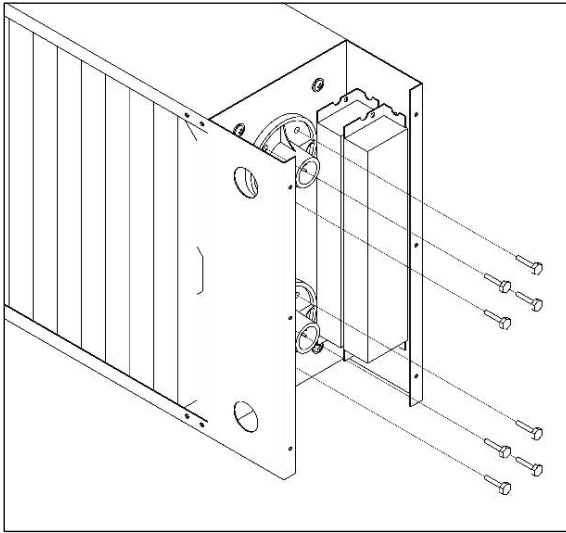

Figure 18
6.) Lamps are attached to catalyst panel with (4) 10-16 Self-Drilling screws per lamp. Remove the screws using a 5/16" socket. See Figure 18.
10.) Reinsert (4) screws per lamp using a 5/16" socket. See Figure 18.